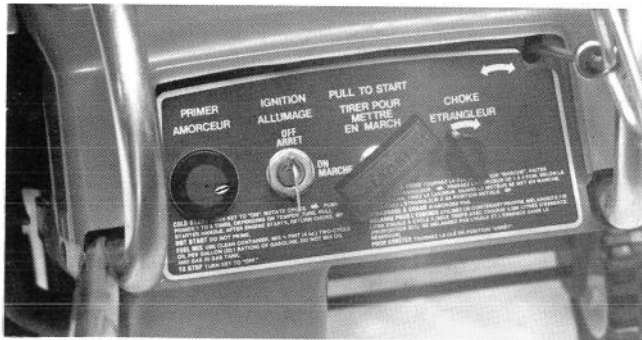

Figure 8
2. Rotate choke clockwise (Fig. 8).
3. Put thumb on center of primer so hole is covered and sealed (Fig. 8). Depending upon temperature at which the machine is stored, push the primer one to four times. For temperatures above +20° F (-7° C) use one or two primes; below +20° F (-7° C), use three or four primes; for extremely cold temperatures below -10° F (-23° C) use five to six primes.
4. Turn ignition key to ON (Fig. 8).
5. To start S200 Recoil Start, put one hand on the lower handle to steady the snowthrower. Next grasp recoil starter handle (Fig. 8) and pull vigorously to start engine. If engine does not start after four pulls, prime engine again as described and pull recoil starter handle four more times. Repeat this procedure until engine starts.
1. Turn ignition key to OFF (Fig. 8).